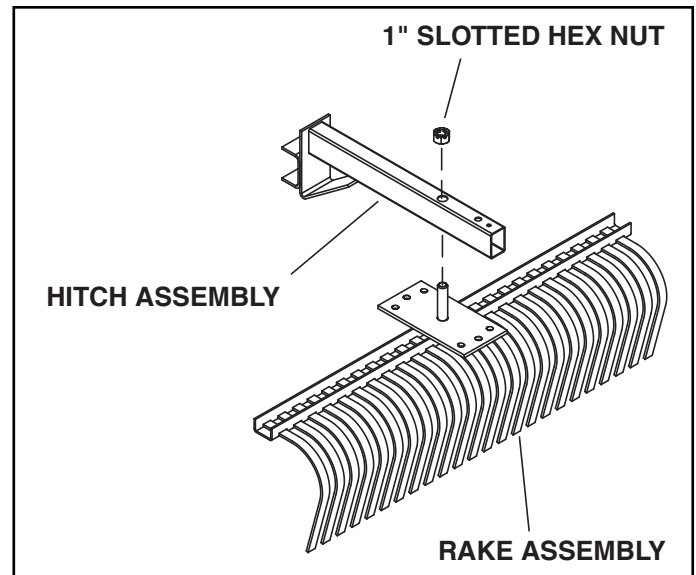

FIGURE 2
2. Align the hitch assembly (pointing in direction shown) and the rake assembly. Place the hitch assembly down onto the threaded stud on the rake assembly and install the 1" slotted hex nut onto the threaded stud. Tighten the nut until it is just snug. See figure 2.